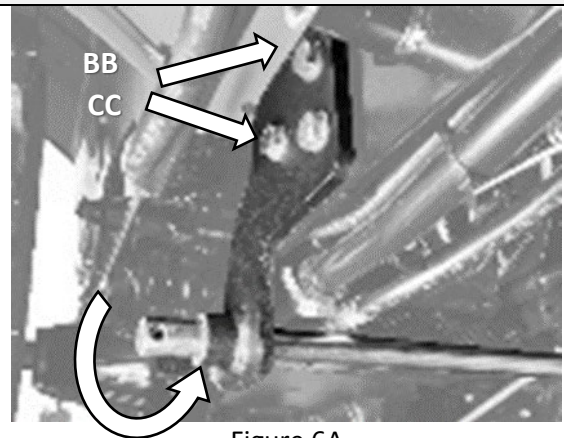

Figure 6A
5. Once the Lift Bar is secure, roll the assembly up and install the remaining bolts BB and nuts CC (figure 6A). Torque to 55 ft-lb.